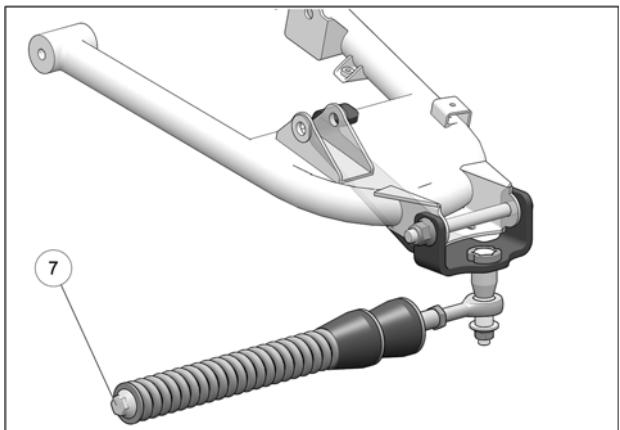

Fig. 12
11. Verify that spring assembly bolt (7) is tightened to the recommended torque specification: 75 N·m [55 lb·ft]. Refer to Fig. 12